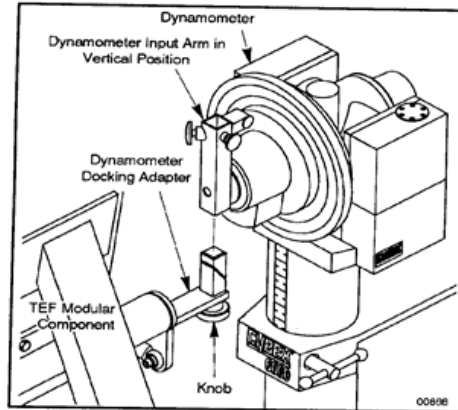

Figure 4-6 Input Arm and Adapter Alignment
5. Rotate the dynamometer towards the TEF Modular Component. Position both so that the dynamometer input arm is directly above the docking adapter. See Figure 4-6.
8. While holding the input arm vertically, slowly push down on the dynamometer. The TEF Modular Component docking adapter should slide into the dynamometer input arm. (See Figure 4-6.)